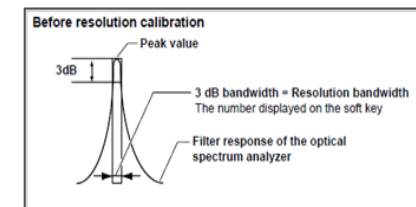

Fig. 4 Resolution bandwidth (FWHM)
- The resolution calibration is recommended because the filter response of an optical spectrum analyzer is not rectangular typically, and thus the Resolution bandwidth defined as FWHM (Fig. 4) differs slightly from the equivalent noise bandwidth.